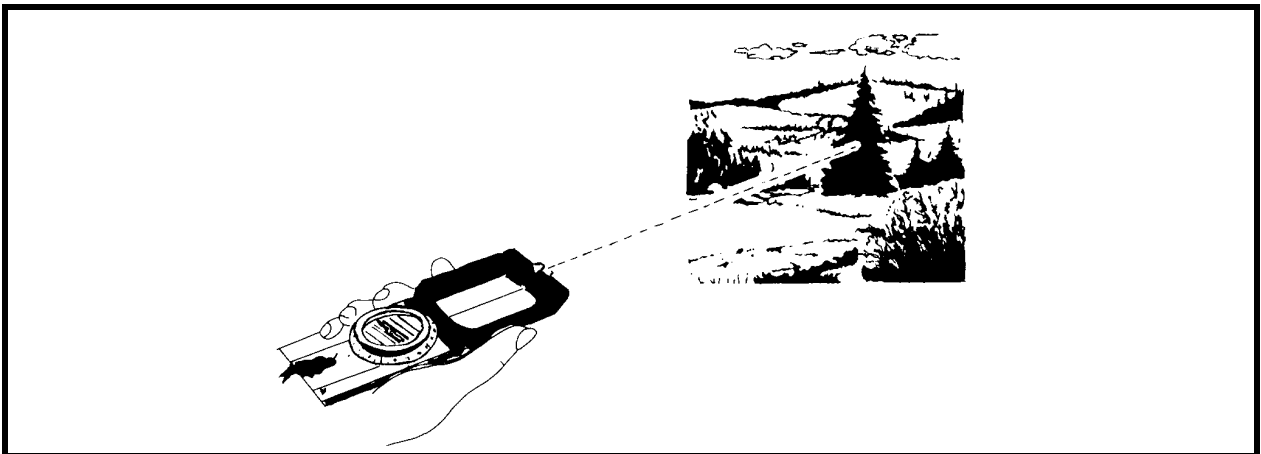

Figure 8-8 Taking a Bearing
- b. Pivot yourself and your compass around until the sighting line points straight to the object on which you are taking the bearing. See Figure 8-8.